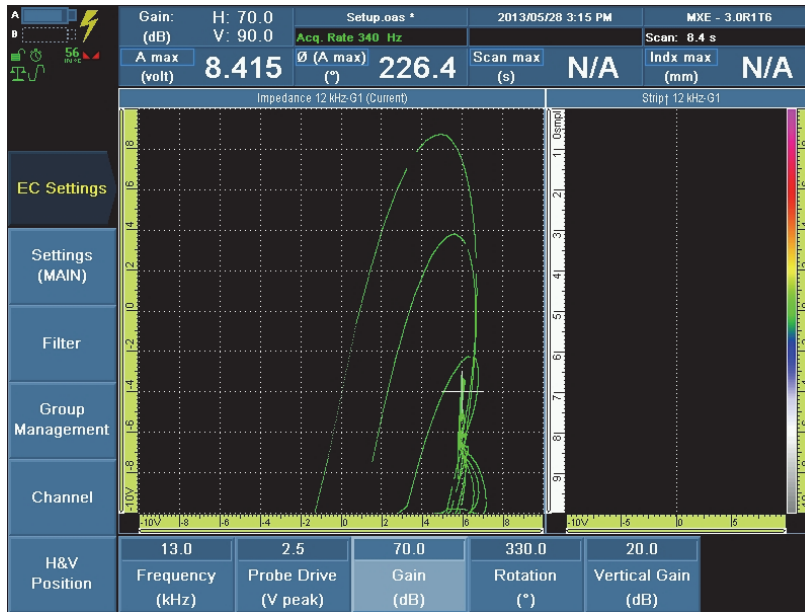

Figure 13-19 Crack signal over 80 % amplitude
- a)* Set the horizontal gain to expand the signal to ensure that it spans at least the half, or 5 grid divisions, of the impedance plane view, to provide 80 % amplitude. In this example, the **Gain (dB)** parameter value is set to **70 dB** (see Figure 13-19 on page 266).